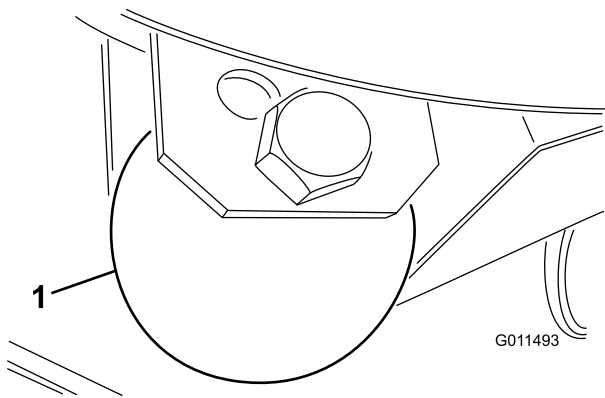

Figure 29
- Remove the bolt and nut securing the gage wheel to the cutting unit brackets (Figure 29).